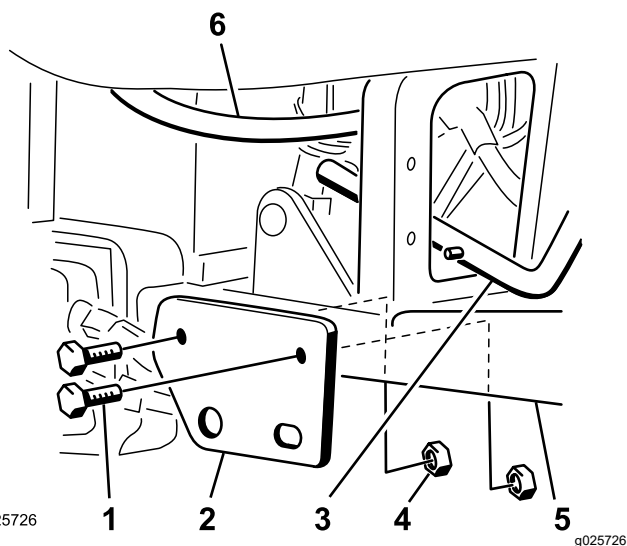

Figure 2
5. Install the mounting bracket of the scarifier lift-handle assembly to the right footrest tubes with 2 bolts (1/2 x 3-1/4 inch) and thin locknuts (1/2 inch), as shown in Figure 2.
Note: There must be a minimum clearance of 3 mm (1/8 inch) between the hydraulic line and the lift handle assembly. Gently position the hydraulic line as required (Figure 2).